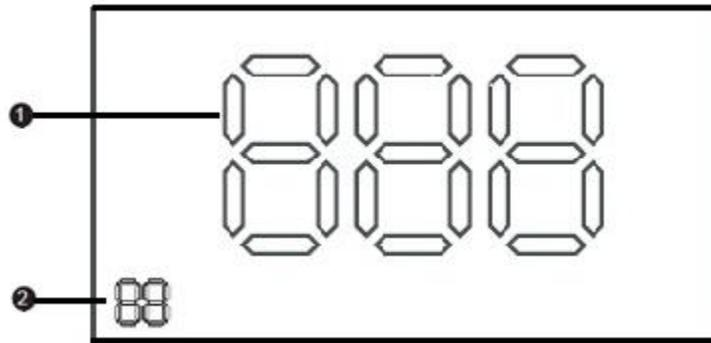

Figure 13 – Diagnostic Function Screen Shot
Table 4 – Diagnostic Function List – See Screen Shot in Figure 13 for location of Value (1) and Display Code (2)